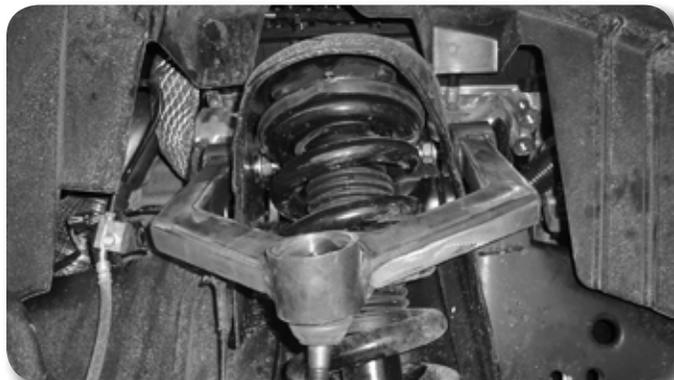

Figure 16
24. Install the strut assembly back in the vehicle and fasten to the original frame mount with the provided 10mm nuts and washers. Figure 16 Torque nuts to 45 ft-lbs.